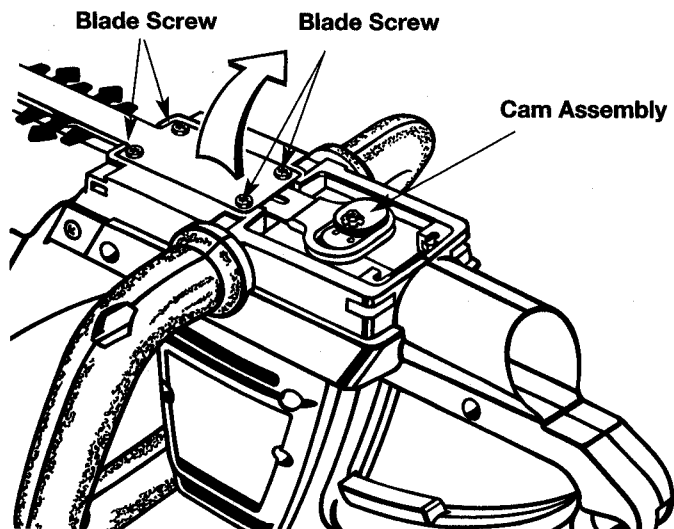

Fig. 11
4. Remove blade screws (Fig. 11).